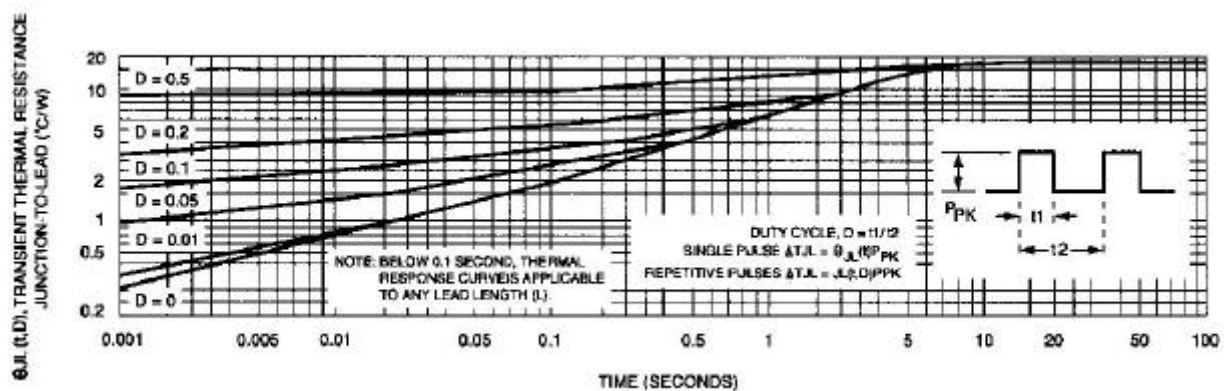
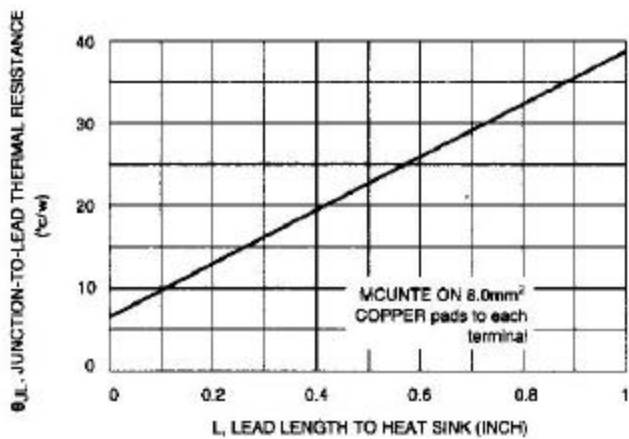
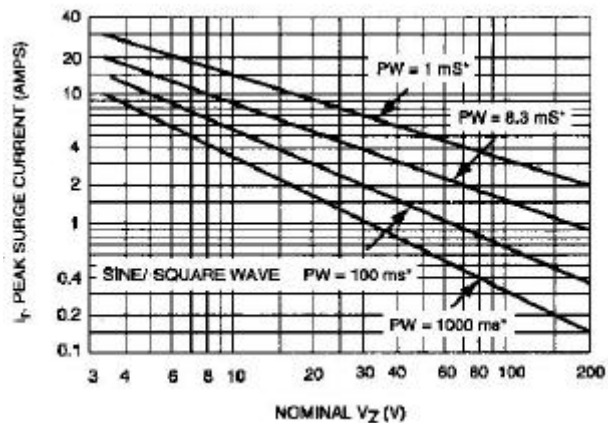
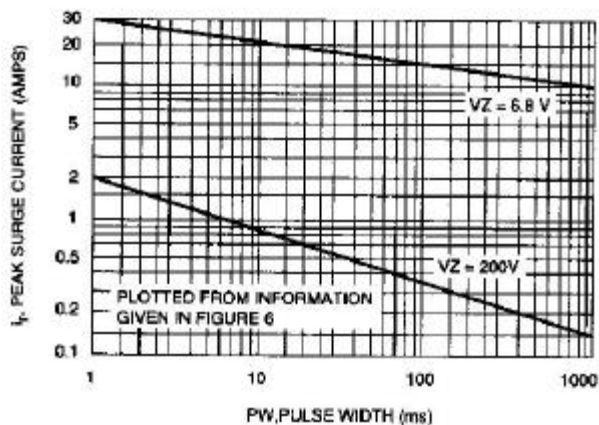

Fig. 3-TYPICAL THERMAL RESPONSE
Fig. 4-TYPICAL THERMAL RESISTANCE
Fig. 5-MAXIMUM NON-REPETITIVE SURGE CURRENT
Fig. 6-PEAK SURGE CURRENT VERSUS PULSE
3. SURGE CURRENT (I_r) - Surge current is specified as the maximum allowable peak, non-recurrent square-wave current with a pulse width, PW, of 8.3 ms. The data given in Figure 5 may be used to find the maximum surge current for a quare wave of any pulse width between 1 ms and 1000ms by plotting the applicable points on logarithmic paper. Examples of this, using the 6.8v and 200V zeners, are shown in Figure 6. Mounting contact located as specified in Note 3. ($T_A=25$).
T_{JL} is the increase in junction temperature above the lead temperature and may be found from Figure 3 for a train of power pulses or from Figure 4 for dc power.
Data of Figure 3 should not be used to compute surge capability. Surge limitations are given in Figure 5. They are lower than would be expected by considering only junction temperature, as current crowding effects cause temperatures to be extremely high in small spots resulting in device degradation should the limits of Figure. 5 be exceeded.